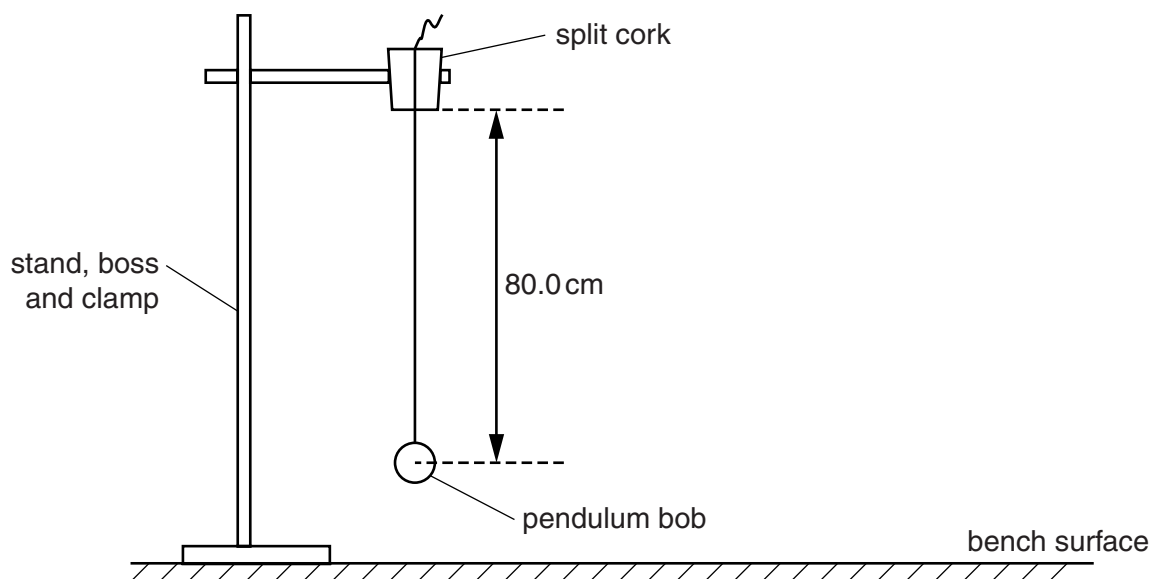

Fig. 2.1
- One end of the thin string should be attached to the pendulum bob, and the other end should be passed through the split cork. The apparatus should then be set up by the Supervisor as shown in Fig. 2.1. The string should then be pulled through the split cork until a simple pendulum of exact length 80.0 cm, from the bottom of the split cork to the middle of the pendulum bob, is set up.